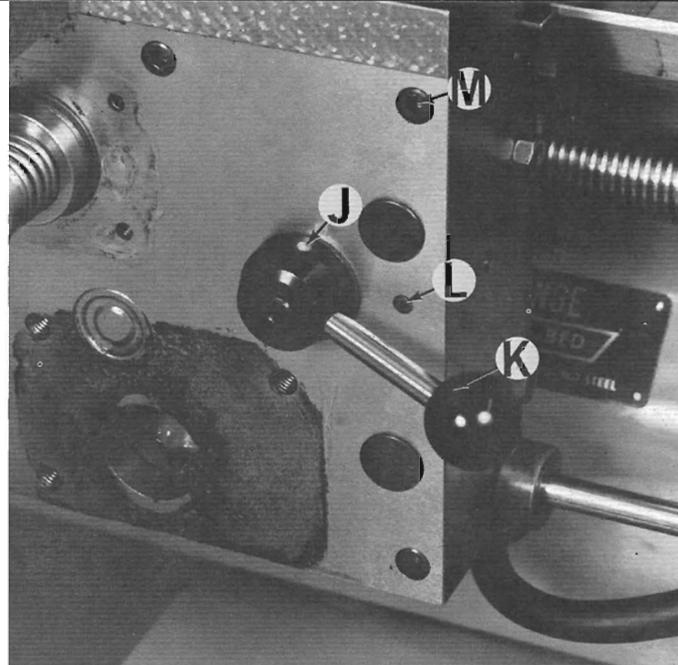

Figure 110 — Lead Screw Nut Handle
6. Remove taper pin "J", Figure 110, and remove lead screw nut handle "K" and fibre washer. Remove lock screw "L".
7. Remove seven screws "M", Figure 110.
10. Permatex apron cover and replace. **USE CARE NOT TO DAMAGE PRECISION GEARS.** Assemble seven screws "M", Figure 110.
15. Replace lock screw "L", Figure 110, Fibre washer, handle "K" and taper pin "J".